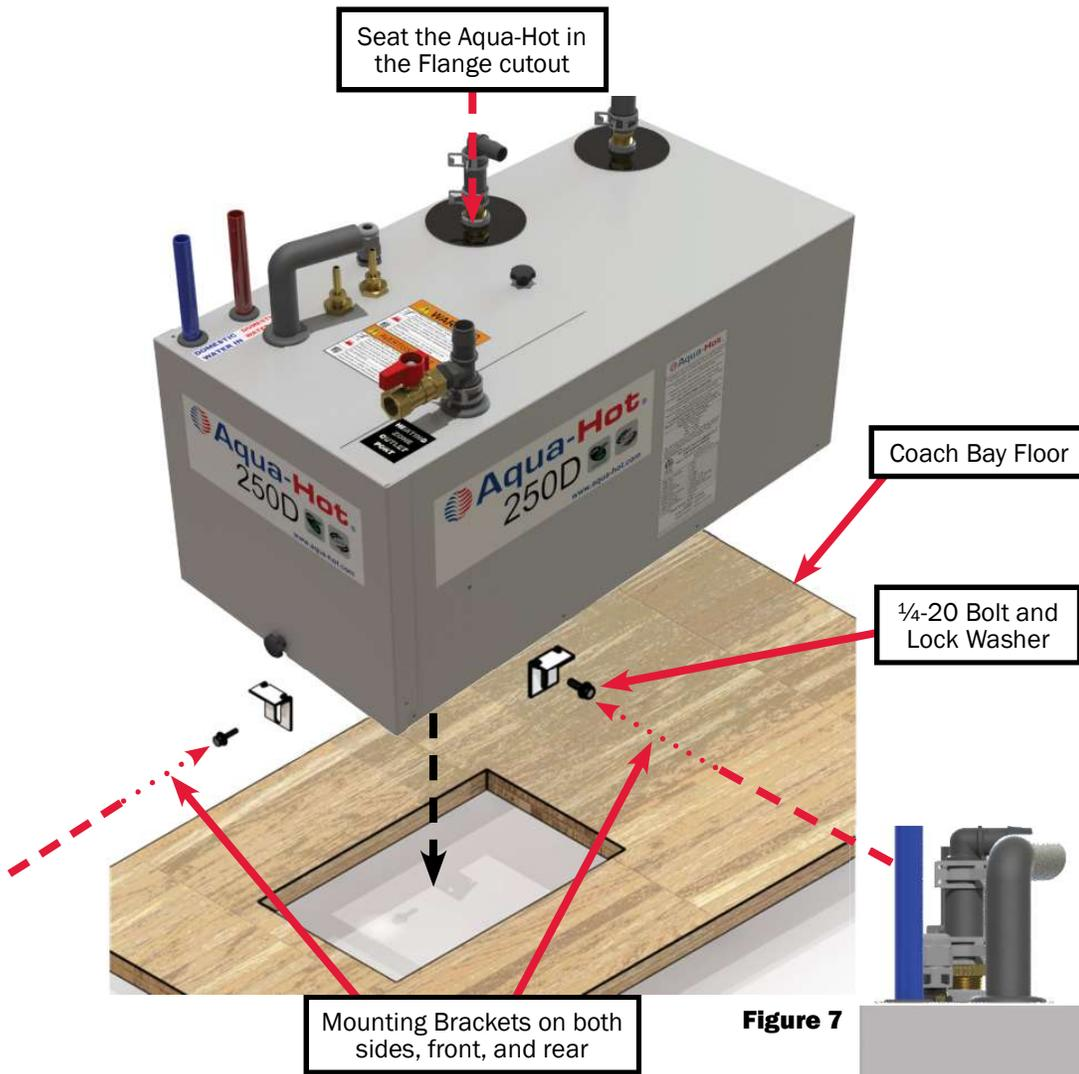

Figure 7
3. Install the flange located on the bottom of the Aqua-Hot into the cutout opening. Reference Figure 7 & 8.